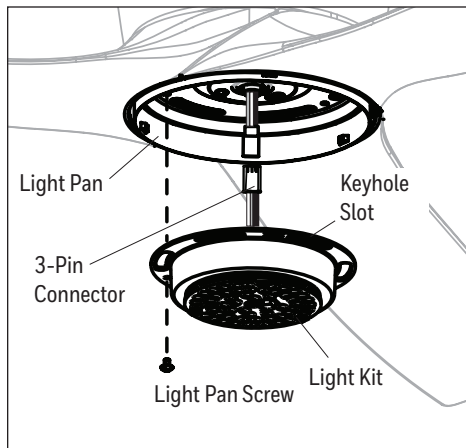

Figure 4.5
5. Remove one of the three light pan screws from the light pan and loosen the other two but do not remove. Connect the 3-pin connector from fan to the 3-pin connector from the light kit. Lift the two keyhole slots in the light kit over the two loosened light pan screws and turn in a clockwise direction. Then, use the previously removed light pan screw to secure the light kit to the light pan. Tighten all screws (Figure 4.5).